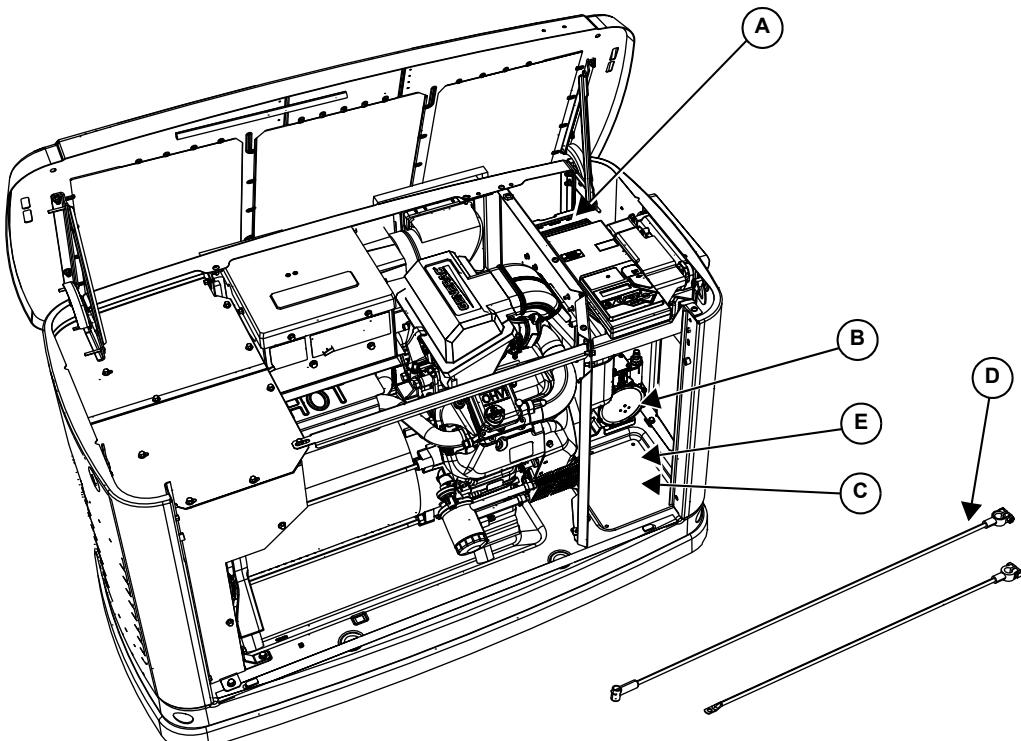

Figure 2-6. Customer Connection Area and Loose Parts Location
- 11.** *Figure 2-6* illustrates the following: